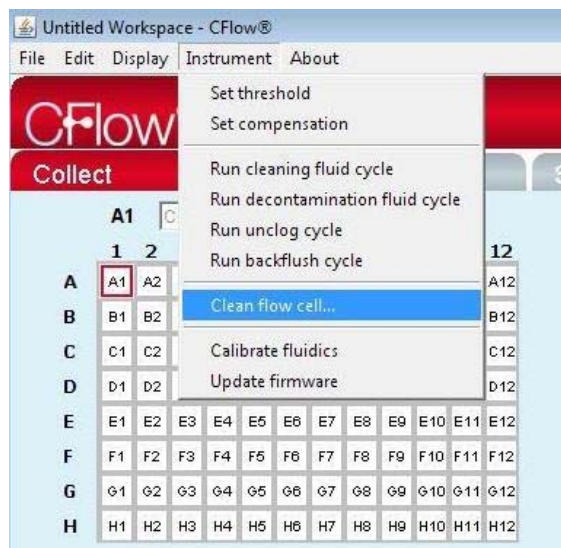

Figure 5-10 The Instrument Menu
18. To switch between the VirtualGain and native displays, click the asterisk. A black asterisk indicates VirtualGain applied, a grey asterisk indicates display of the original data (Figure 5-10).